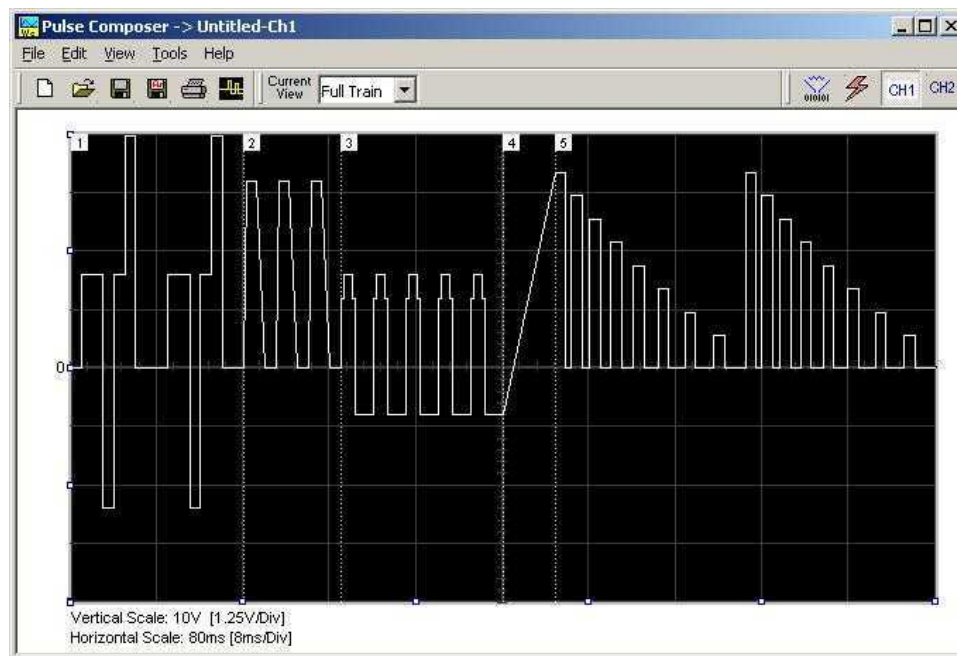
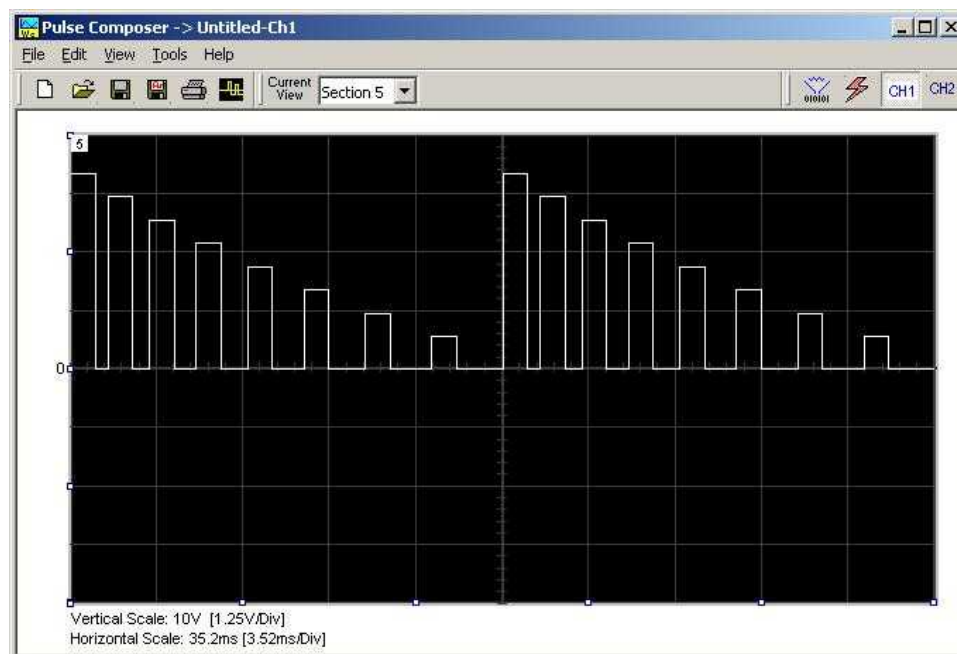
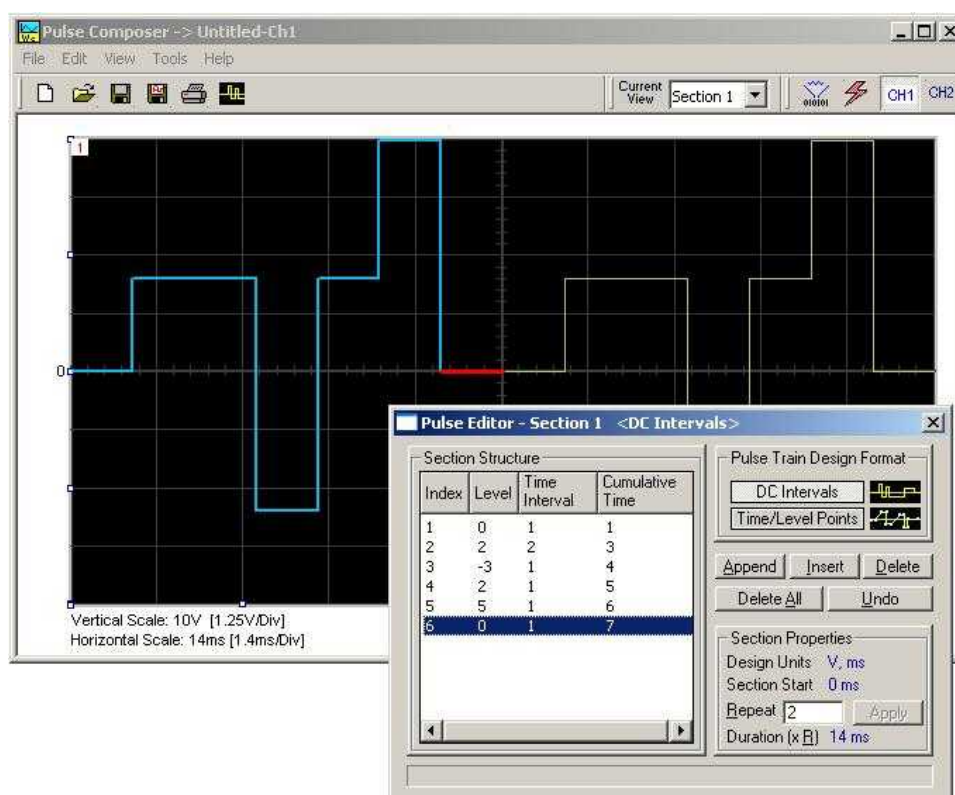

Figure 4-33, Complete Pulse Train Design
Figure 4-34, Section 5 of the Pulse Train Design
Figure 4-37, Building Section 1 of the Pulse Example
Pulse train is constructed from 1 or more sections. If the pulse is simple, it can be created using one section only. For more complex pulse train, the train can be divided to smaller sections and each section designed separately for simplicity. Figure 4-33 shows a complex pulse train which was made from five simpler sections and Figure 4-34 shows the design of the fifth section only of the pulse train.
Now that we somewhat understand the terms we use for the pulse design, we start with an example how to design the pulse train as shown in Figure 4-34. If you already have some pulses shown on your pulse composer screen, click on New to start from a fresh
**Pulse Example, Section 1** Now that we are better familiar with the pulse editor and its options, we are ready to start building the first section of the pulse as shown in Figure 4-33. Point and click on the New icon and open the pulse editor. Type in the level and time intervals as shown in Figure 4-37. Note that the pulse segments are being created on the screen as you type the values.
**Pulse Example, Section 2** The first pulse section is complete. We are ready now to start building the second section of the pulse as shown in Figure 4-33. Point and click on the Edit command and select the Append Section option. A new section number will appear but it will show empty next to the section identifier.
**Pulse Example, Section 3** The second pulse section is complete. We are ready now to start building the third section of the pulse as shown in Figure 4-33. Point and click on the Edit command and select the Append Section option. A new section number will appear but it will show empty next to the section identifier.
**Pulse Example, Section 4** The third pulse section is complete. We are ready now to start building the forth section of the pulse as shown in Figure 4-33. Point and click on the Edit command and select the Append Section option. A new section number will appear and will show empty next to the section identifier.
**Pulse Example, Section 5** The fourth pulse section is complete. We are ready now to start building the fifth and final section of the pulse as shown in Figure 4-33. Point and click on the Edit command and select the Append Section option. A new section number will appear and will show empty next to the section identifier.
Congratulations for coming that far. If you followed the above description how to build this pulse example, the screen should look exactly as shown in Figures 4-33 and 4-41. If you are happy with the results, the next step is to download what you see on the pulse composer screen to the generator.